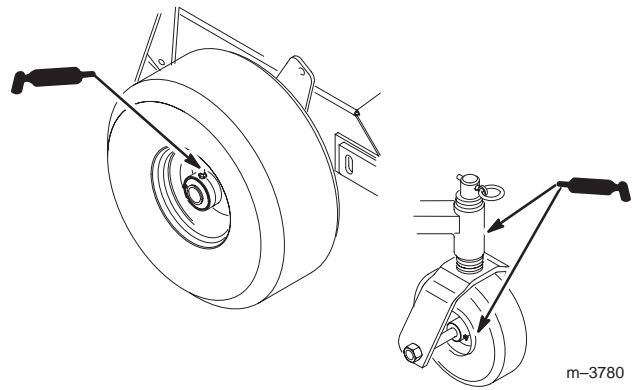

Figure 40
1. Lubricate the drive and caster wheel bearings and front spindles (Fig. 40). Lubricate every 8 hours.